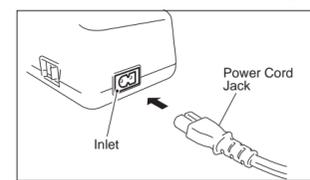

Fig. 4
(1) Charging Batteries
- Insert the power cord jack into the inlet at the back of the battery charger. (Fig. 4)